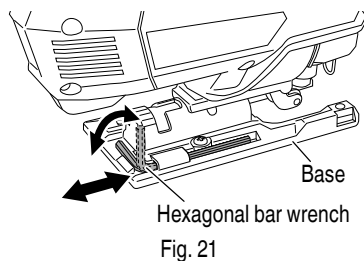

Fig. 21
- It is possible to house the auxiliary hexagonal bar wrench on the base (Fig. 21).